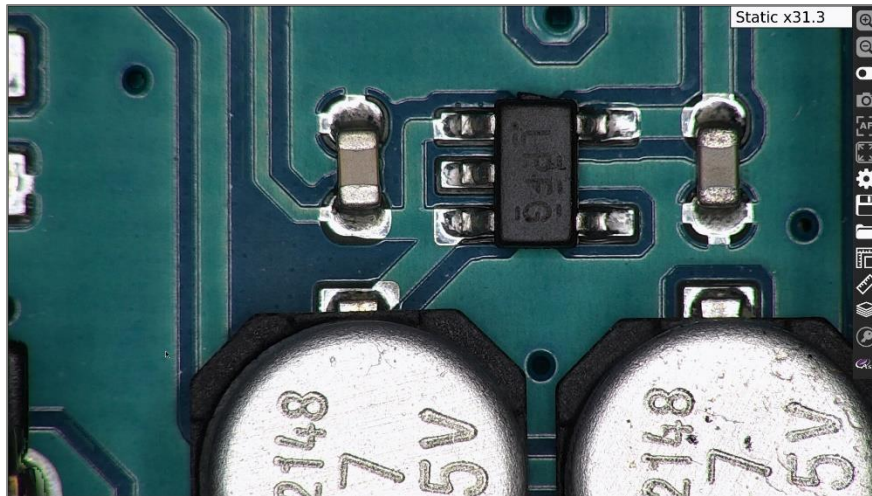

Fig. 20
- 5. The processed image will now be displayed in static form with all components (heights) in-focus (Fig.20).